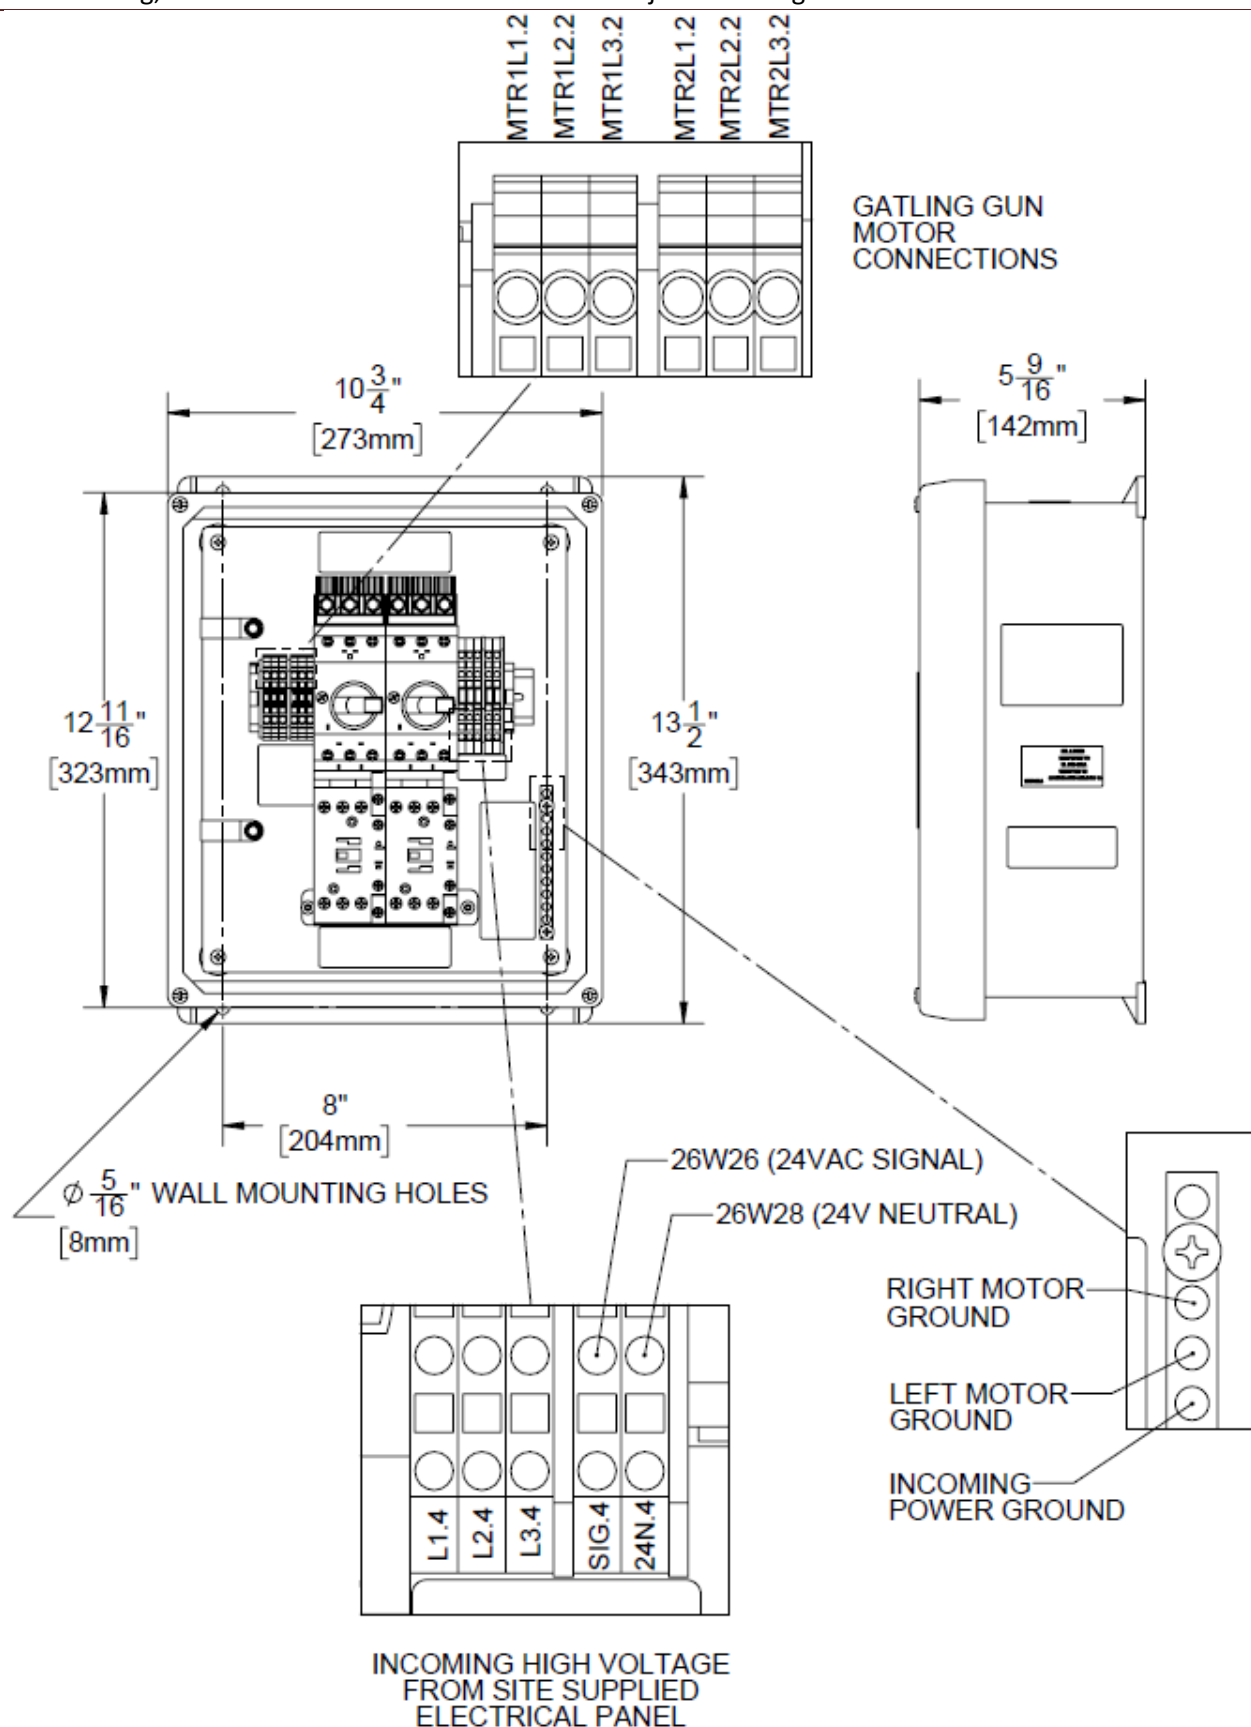

Figure 118 - Gatling Gun Control Box
- Wire power and the control wires to the control box as shown in Figure 118 and Table 17 or Table 18. Do not drill holes in the top of the electrical enclosure.